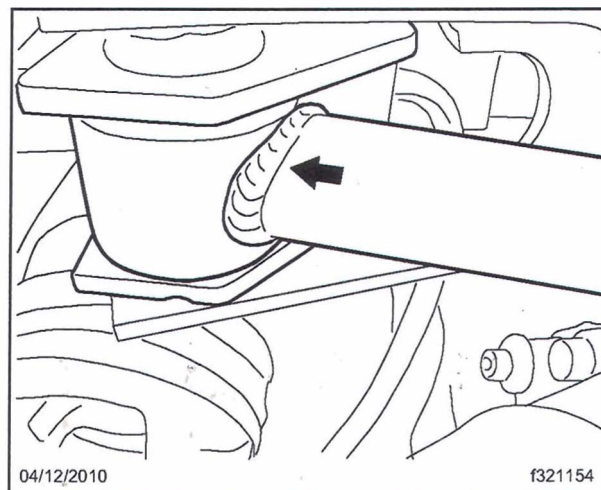

Fig. 1, Transverse-Control Arm Weld Area
3. On both the front steering axle and the rear axle, clean and inspect the weld seams at the transition of the transverse-control arm tube to the bolt eyes. See Fig. 1.